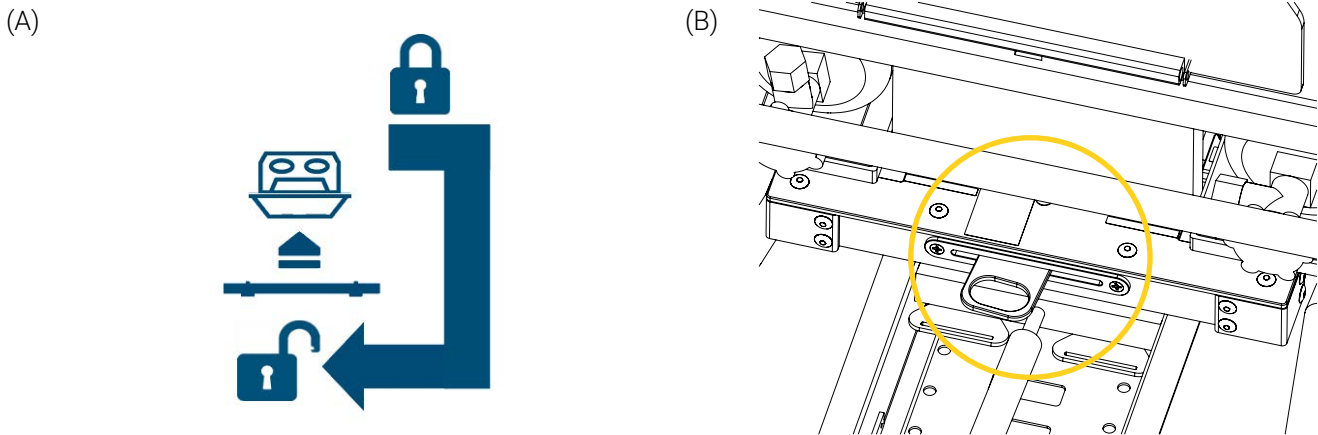

Figure 13: Locking the incubator - Patient head end
4. Move the quick release latch towards patient right, insert the latch, then move it towards patient left to lock the incubator on the mounting solution (Figure 13).